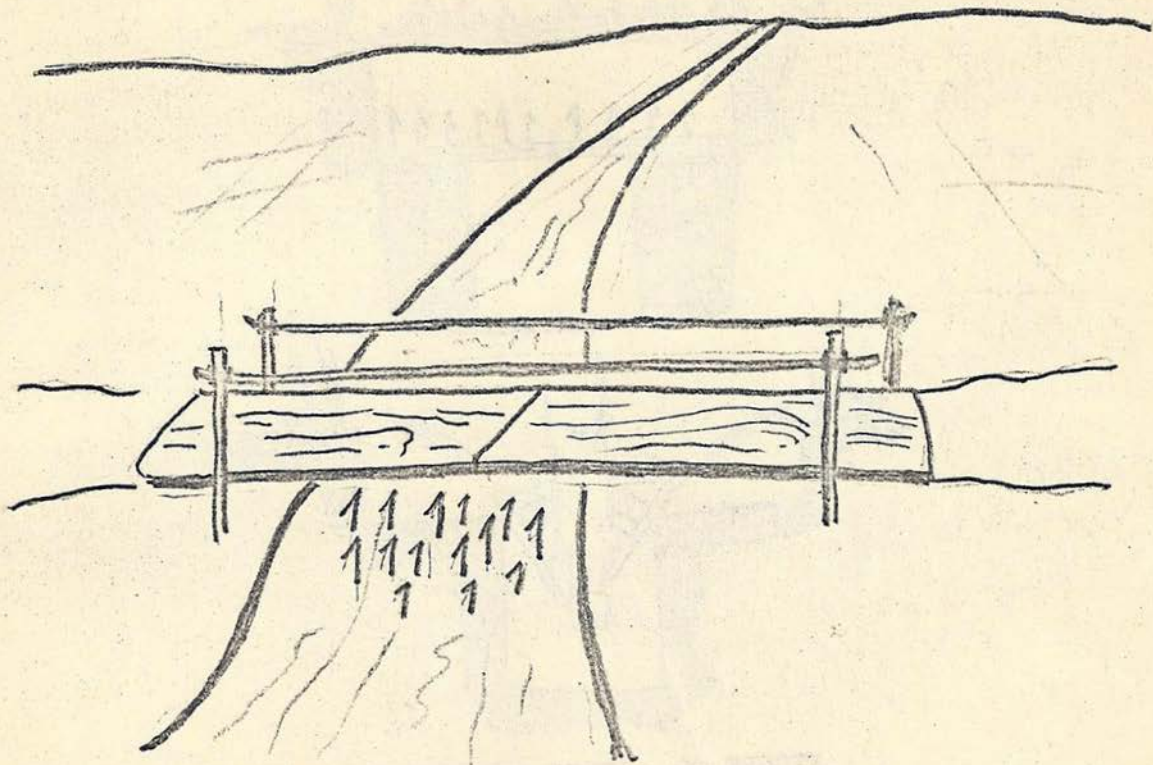

FIGURE 68. BRIDGE SPIKE TRAP
- c. Bridge Spike Trap: Used on small plank type bridges crossing ravines, irrigation canals, etc. Plank is cut at the middle, covered with mud, and punji stakes are placed under the plank, causing the individual falling through the plank to receive severe foot and leg injuries. (Figure 68).